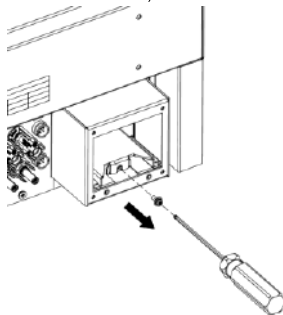

Figure 4.18 Remove fixing screws of the rail
- (3) Remove the fixing screws of AC terminal rail, as shown in Figure 4.18.